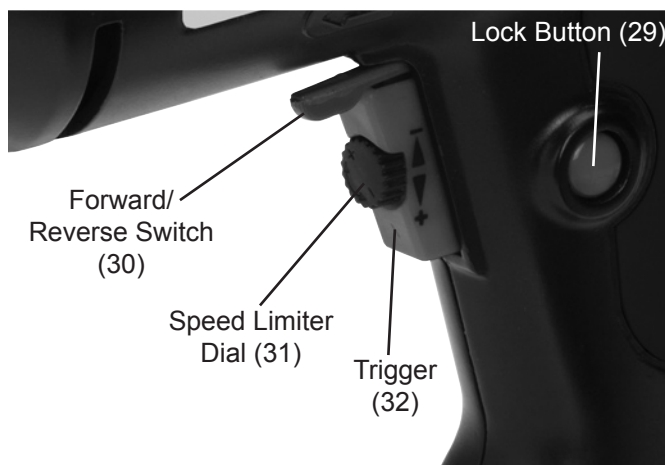

Figure 1
1. The Trigger can be locked in the ON position for extended operation. See Figure 1.
1. Plug Power Cord (21) into suitable outlet.
2. Use the Forward/Reverse Switch (30) above the Trigger (32) to determine the rotation direction of the Chuck. Slide it to the right side for reverse Chuck rotation. Slide to the left side for forward Chuck rotation. See Figure 1. **CAUTION!** Allow